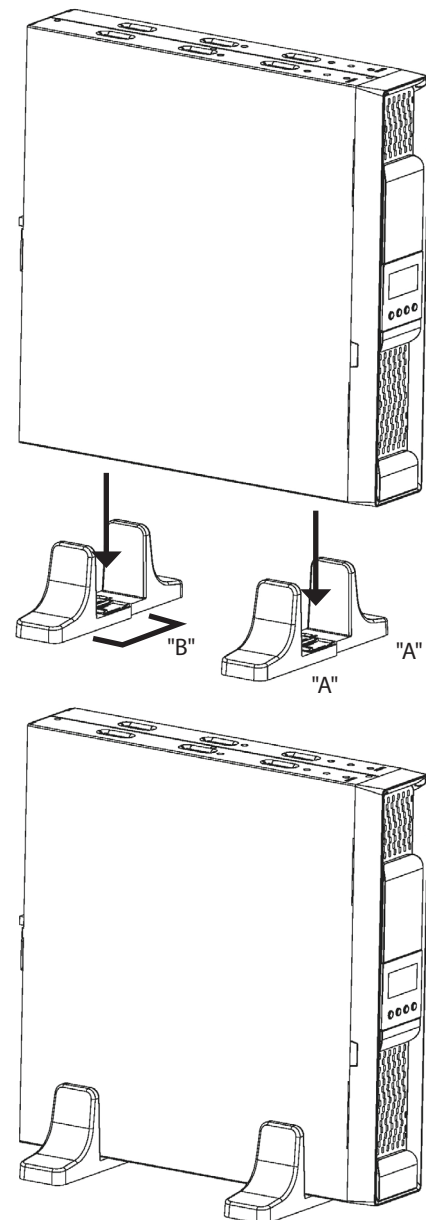

Fig. 6. Vertical -tower type- assembling.
- Put the UPS vertical between the two stabilizers supports "B" (see figure 6).